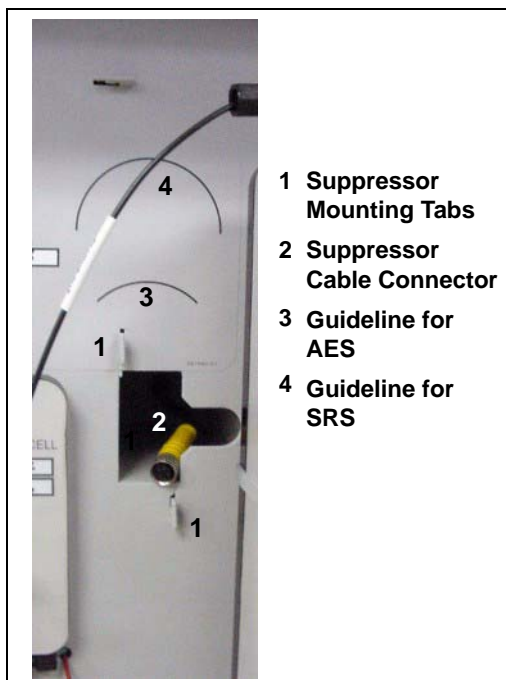

Figure 5-20. Suppressor Guidelines and Mounting Tabs on Component Panel
11. Align the top of the suppressor with the guide line printed on the component panel (see Figure 5-20) and align the slots on the rear of the suppressor with the tabs on the panel.